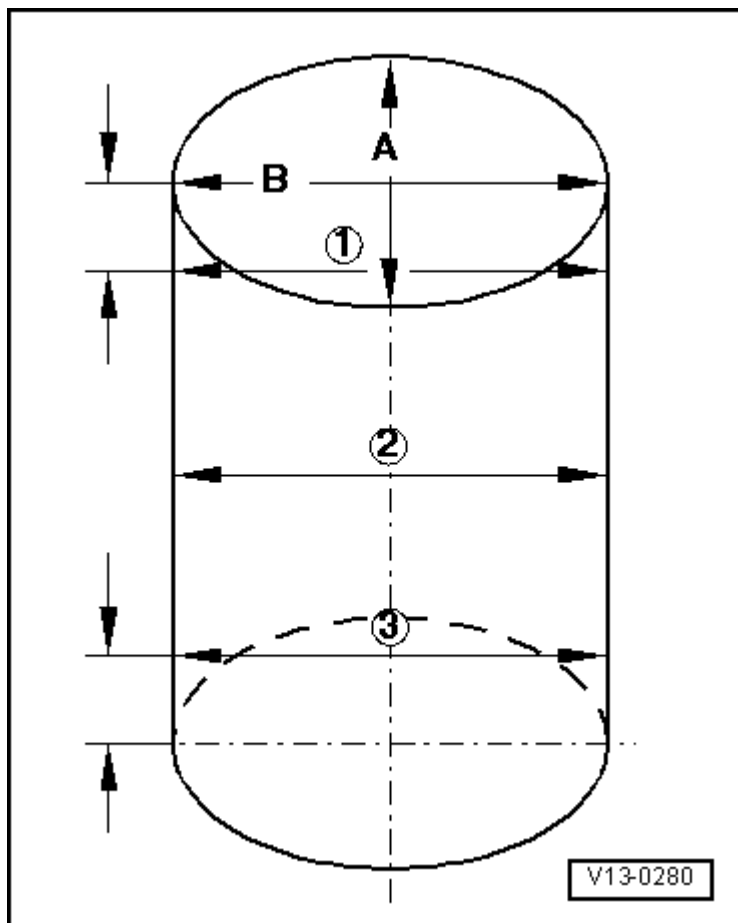

Fig. 18: Identifying Check Of Cylinder Bores
- Checking the cylinder bore, refer to **Fig. 18**.